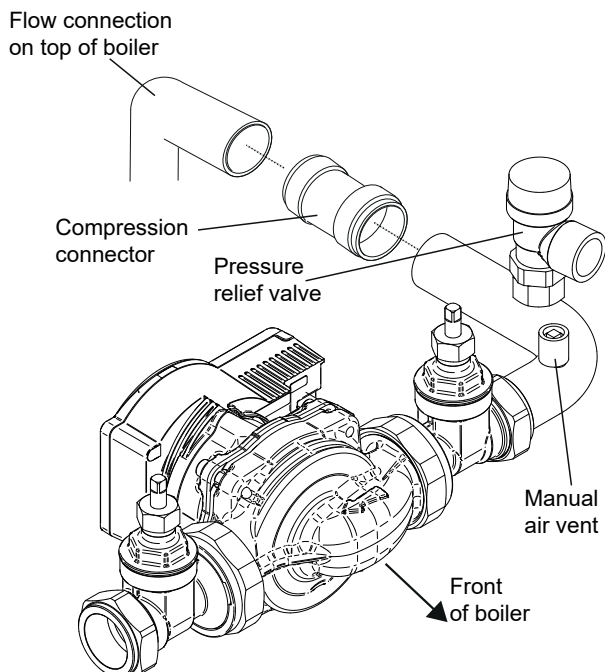

Figure 7-9: Vortex Module 26/36 and 36/46 sealed system kit pump assembly (Wilo Para SC pump shown)
See Figure 7-9
12. Fit the pressure relief valve onto the manifold pipe, then push the manifold pipe end into the 28 mm compression elbow on the flow pipe. Refer to Figure 7-9.